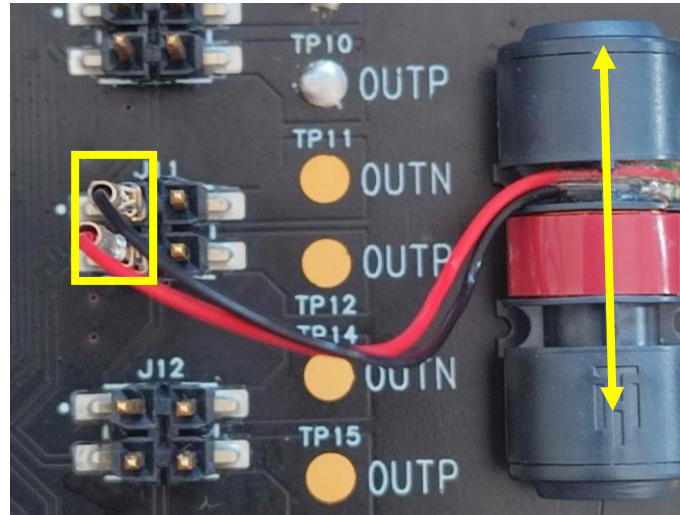

Figure 37. Connection to left hand pins of J11, orientation vibration for x-axis (arrow)
3. Ensure the wires can reach the two left side pins of either J7, J8, J11 or J12 leaving enough length on the actuator cable to allow them to be comfortably connected and disconnected using the 1 pin sockets as shown in Figure 37.
- Mounting in the up/down position (Figure 37) results in the vibration being able to be measured on the X axis of the accelerometer.